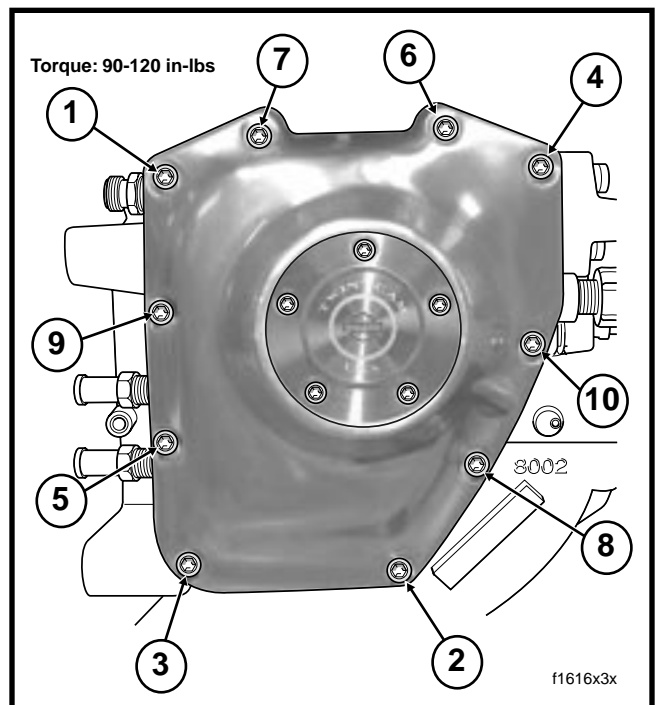

Figure 3. Cam Cover Torque Sequence
2. Install the cam cover using ten allen head socket screws. Following the pattern shown in Figure 3, alternately tighten screws to 90-120 **in-lbs** (10.2-13.6 Nm).